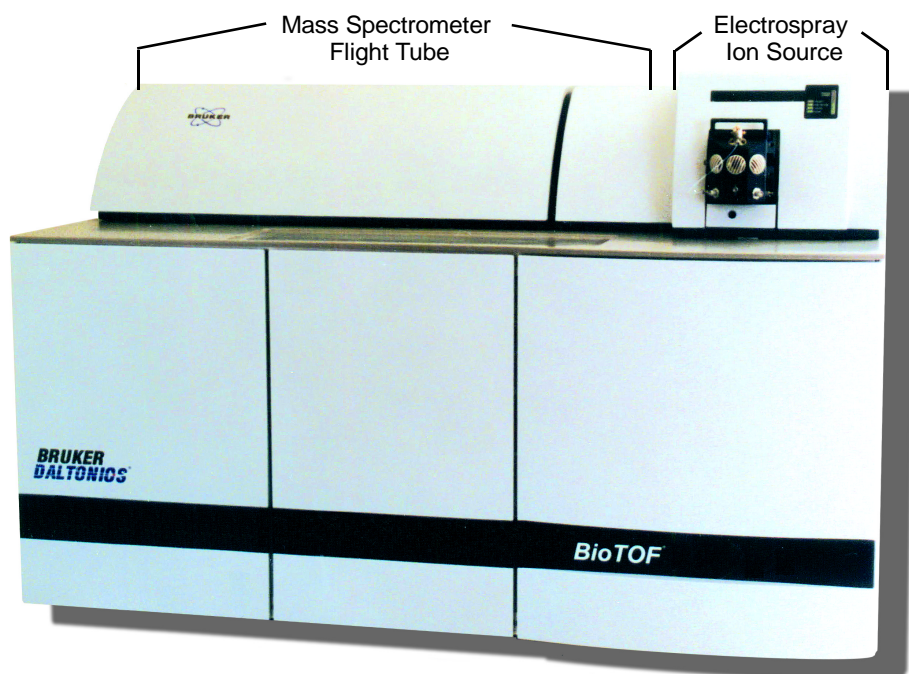

Figure 1-1 Basic BioTOF System Configuration
The BioTOF system (Figure 1-1) consists of:
In the basic BioTOF configuration, the sample is introduced to the ESI source by means of a syringe pump (Figure 1-1). The sample can also be delivered to the BioTOF via a liquid chromatography (LC) system.